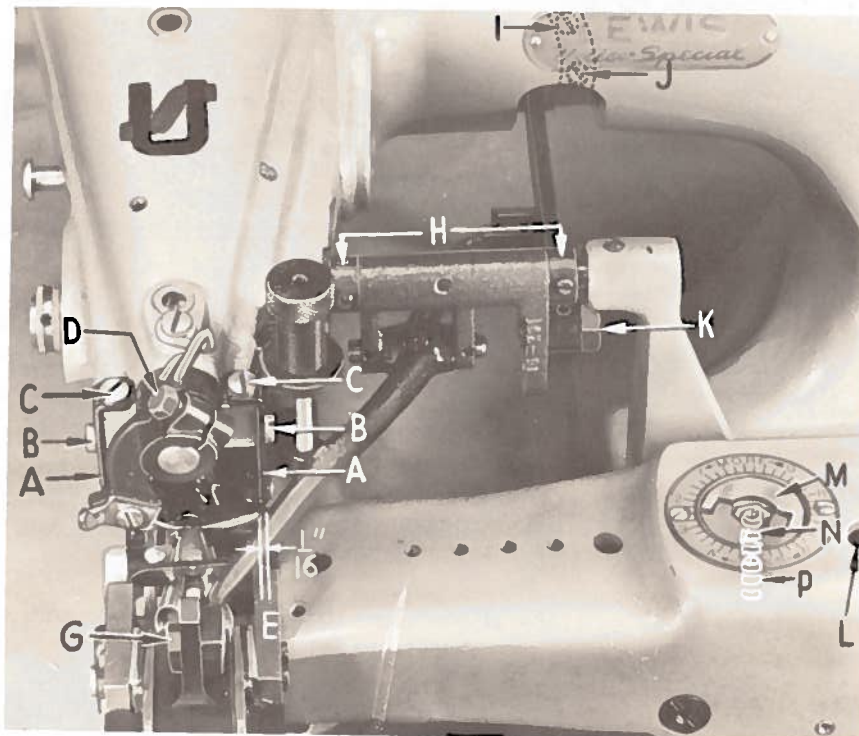
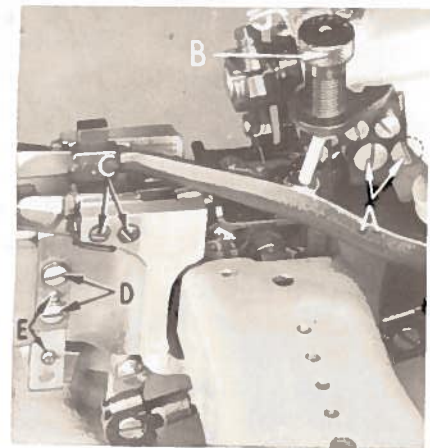
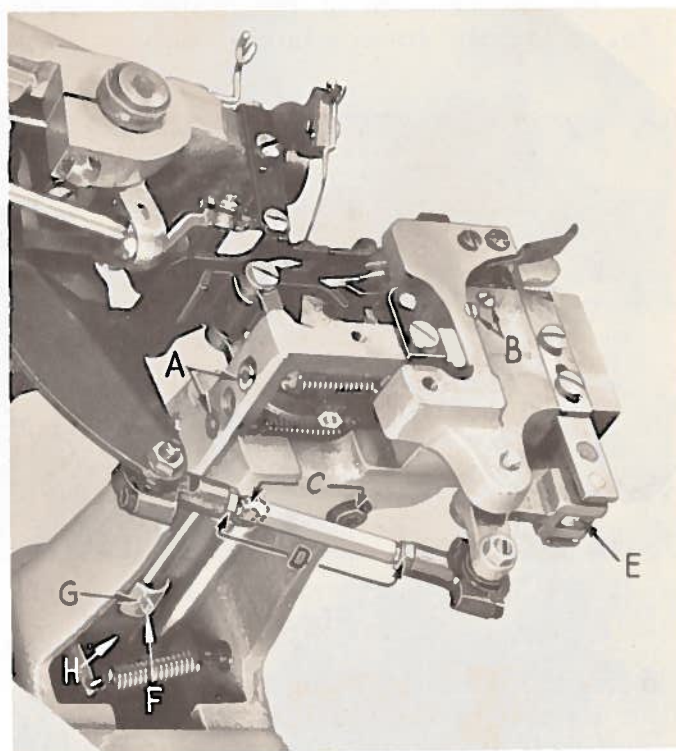

Fig. 2
Fig. 6
Fig. 7
In order to accomplish these adjustments, the screws in the presser foot brackets (A, Fig. 2) are manipulated. Screws (B) are used to clamp the brackets securely, and screws (C) are used to assist in making adjustments.
To obtain this adjustment, loosen needle clamp screw (D, Fig. 2) just enough to allow the carrier to be moved by taping. Re-tighten clamp screw (D, Fig. 2) when the above setting is obtained.
Turn the handwheel in operating direction until the needle has reached the extreme right position. The point of needle should be  $1/16$  inch from the upper right edge (E, Fig. 2) of the presser foot.
The feed point is adjusted by means of two screws (A, Fig. 6) holding the feed point to the feed driving arm.
Pressure on the feed platen is controlled by the two nuts in the back of the cylinder (A, Fig. 7). Turning them counterclockwise increases the tension, clockwise acts the reverse.
NOTE: Before adjusting the ridge forming disc, be sure that there is no end play in the cradle (H, Fig. 7). If there is end play see Catalog No. 194-5, pages 9 and 10.
In order to adjust the disc, loosen the set screw (F, Fig. 7) in the collar (G, Fig. 7); also the clamp screw in the crank, accessible through the hole (L, Fig. 2). Turn the handwheel in operating direction until the point of the needle, when traveling to the right, is in line with the center of the presser foot. Position the disc manually so that it lines up with the center of the presser foot and there is  $1/16$  inch between the small radius of the nose of the disc and the point of the needle. Re-tighten the clamp screw in the crank; also the set screw (F, Fig. 7) in collar (G, Fig. 7) and set the collar to take up all the end play in the ridge forming disc shaft.
The dialed regulator (M, Fig. 2) located on top of the cylinder base raises and lowers the ridge forming disc to get the correct needle penetration in the work being sewn. The word "More" indicates more depth, and "Less" indicates less depth of needle penetration.
The regulator also limits the amount that the disc can be raised in order to protect the needle point from striking the ridge forming disc. The adjustment is made by turning the regulator (M, Fig. 2) in the "More" direction as far as possible to stop pin inside of the regulator.
The needle point should be over the center of the ridge and the needle should just graze the ridge former. If this is not the case, remove the set screw (N, Fig. 2) and adjust screw (P, Fig. 2) underneath that contacts the cradle (H, Fig. 7) in which the ridge forming disc shaft is mounted and adjust screw so that the needle just grazes the ridge
Rotate the handwheel in operating direction and position the needle at the extreme left end of stroke. Insert the folder and position the front edge approximately  $\frac{1}{16}$  inch from the needle. A slightly wider belt loop can be obtained by increasing the  $\frac{1}{16}$  inch dimension. With the folder resting on the ridge former tighten the folder with the two locking screws (B, Fig. 7). If the folder does not center over the ridge former and in the opening of the presser foot, loosen the two knife block mounting screws (C, Fig. 7) and move the block accordingly. Care should be taken to move the block perpendicular to the line of feed.
Assemble front feed to feed arm with screw (G, Fig. 2). Do not tighten securely. Release feed arm pressure by rotating adjusting knob (B, Fig. 6) counter-clockwise.
Apply finger pressure to the top feed dog shank, holding the feed dog flat against folder base. While doing so, raise feed bar so that screw (G, Fig. 2) is at the top of the slot in the feed dog. Tighten screw securely in this position.
The center prong of feed should be located in center of opening in folder. To obtain this setting, adjust two collars on feed rocker (H, Fig. 2) accordingly.
NOTE: It may be necessary to adjust top front feed drive eccentric located on the main shaft when making the above adjustment. Loosen the two screws (I, J, Fig. 2) in the eccentric and position eccentric so that the feed drive strap operates free of any binds. The first screw (I), when turning the handwheel in operating direction, locates on a flat on the main shaft. It is essential that this timing be maintained.
The travel of the front feed is regulated by the position of the feed driving arm in the feed rocker slot. If it is desirable to increase the stitch length, loosen lock nut (K, Fig. 2) and raise driving arm in the feed rocker slot. To shorten stitch length, lower driving arm in slot. When the arm is at the top of the slot, the stitch length is approximately  $4\frac{1}{8}$  S.P.I. When the arm is at the bottom of the slot, the stitch length is approximately 8 S.P.I. Normally, the arm is set in the center of the slot. With the driving arm located in the desired position, adjust the feed lift as follows:
Re-apply sufficient tension to feed bar by adjusting knob (B, Fig. 6) to insure proper feeding action.
Attach upper knives, chip deflector, and correct spacing plates with four attaching screws (C, Fig. 6 & 10). When securing knives, apply a slight upward pressure to the chip deflector and knives and lock in place. This will insure proper space between top of folder and cutting edges of the knives.
Turn handwheel clockwise until lower knives are at top of stroke. Loosen knife attaching screws (D, Fig. 6 & 10) and position knives to their maximum low position and retighten. (The elongated slots in the knives are to compensate for resharpener.)
Loosen nuts on ball joint connecting rod (D, Fig. 7) and turn connecting rod until front edge of lower knife is  $\frac{1}{32}$  inch above bottom edge of top knife. Tighten nuts.
Adjust tension on knives by turning two screws (E, Fig. 6). The amount of tension applied may vary with the thickness of cloth to be trimmed.
Proper alignment of the bottom knives to the top knives is obtained by positioning the collar (E, Fig. 7). To obtain the correct alignment, loosen collar screw and operate the machine slowly. The knives will automatically align themselves. Lock collar in position, being careful not to disturb the alignment.